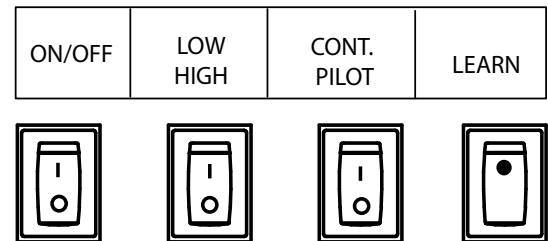

Fig. 37 Control panel rocker switches
1. Push the "I" on the rocker switch to turn ON (Ignite). System will take approximately 7-10 seconds before ignition after the gas line is purged. See Fig. 37. The main flame ignites (defaults) in the HIGH position. Press the "I" on the LOW/HIGH button to adjust to the LOW flame setting, if desired.